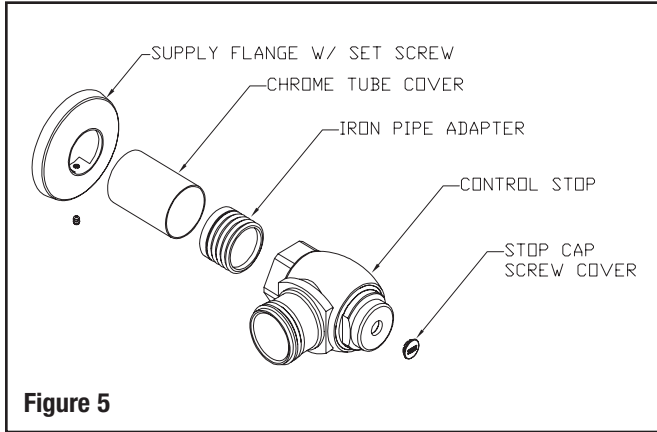

Figure 5
STEP 5 – Control Stop Installation (Figure 5)